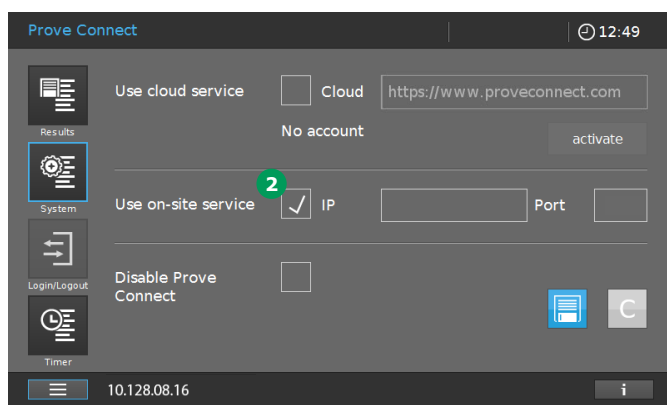

Figure 17 - After clicking on "Prove Connect" in the previous window (Figure 16), this window will appear.
2. Set the checkmark for Use on-site service **2** (Figure 17). Don't save or close this window yet.